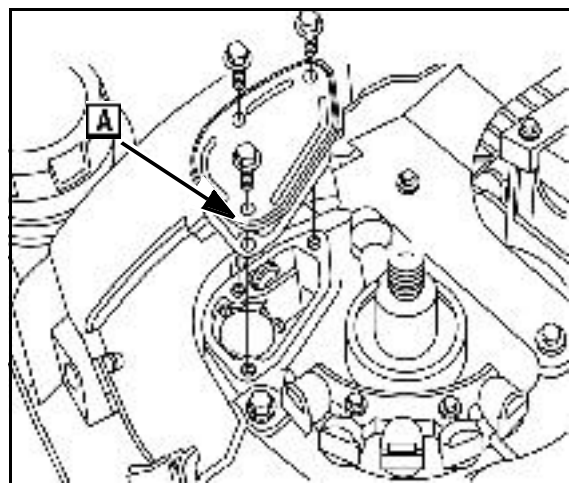

Fig. 24
- Remove breather cover ([A] Fig. 24) from top of cylinder.